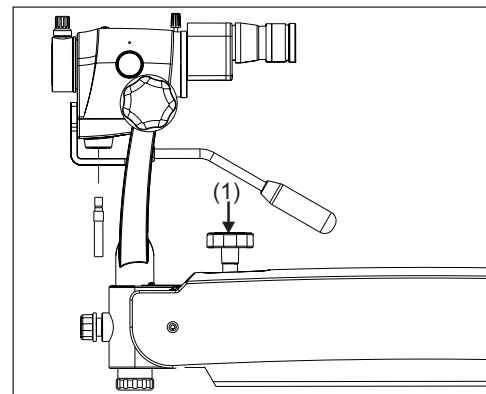

Fig. 12
- 2 Adjust tension on suspension arm using tension adjustment screw as per your convenience by turning the knob clock wise or anti-clock wise. See figure 12.